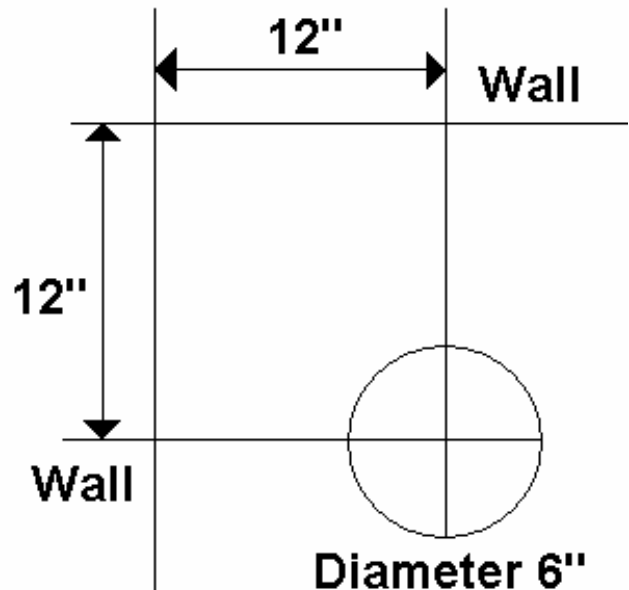

**Figure 5**
8. Using a drill and a drill bit that is slightly bigger than the screws (not supplied) drill the acrylic on the outer lip (hidden section after installation is complete) to secure the shower to the slats, as indicated on Figure 5.